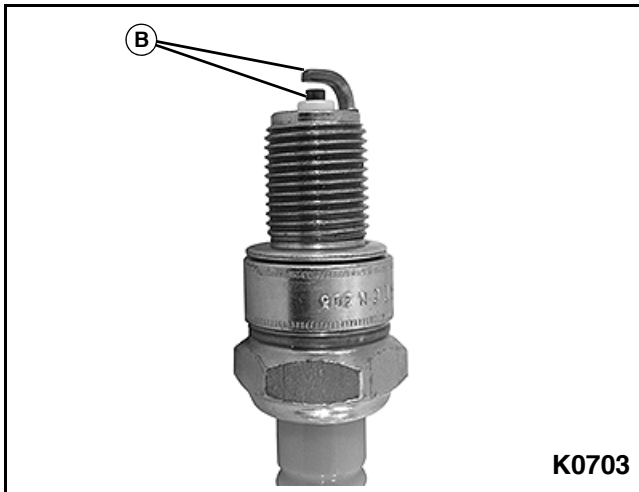

Figure 5-10
6. Inspect the electrodes (B) on each spark plug. **See Figure 5-10.** The electrodes should be light brown. If the electrode appears to be burned, covered with soot, or fouled with oil, replace the spark plug.